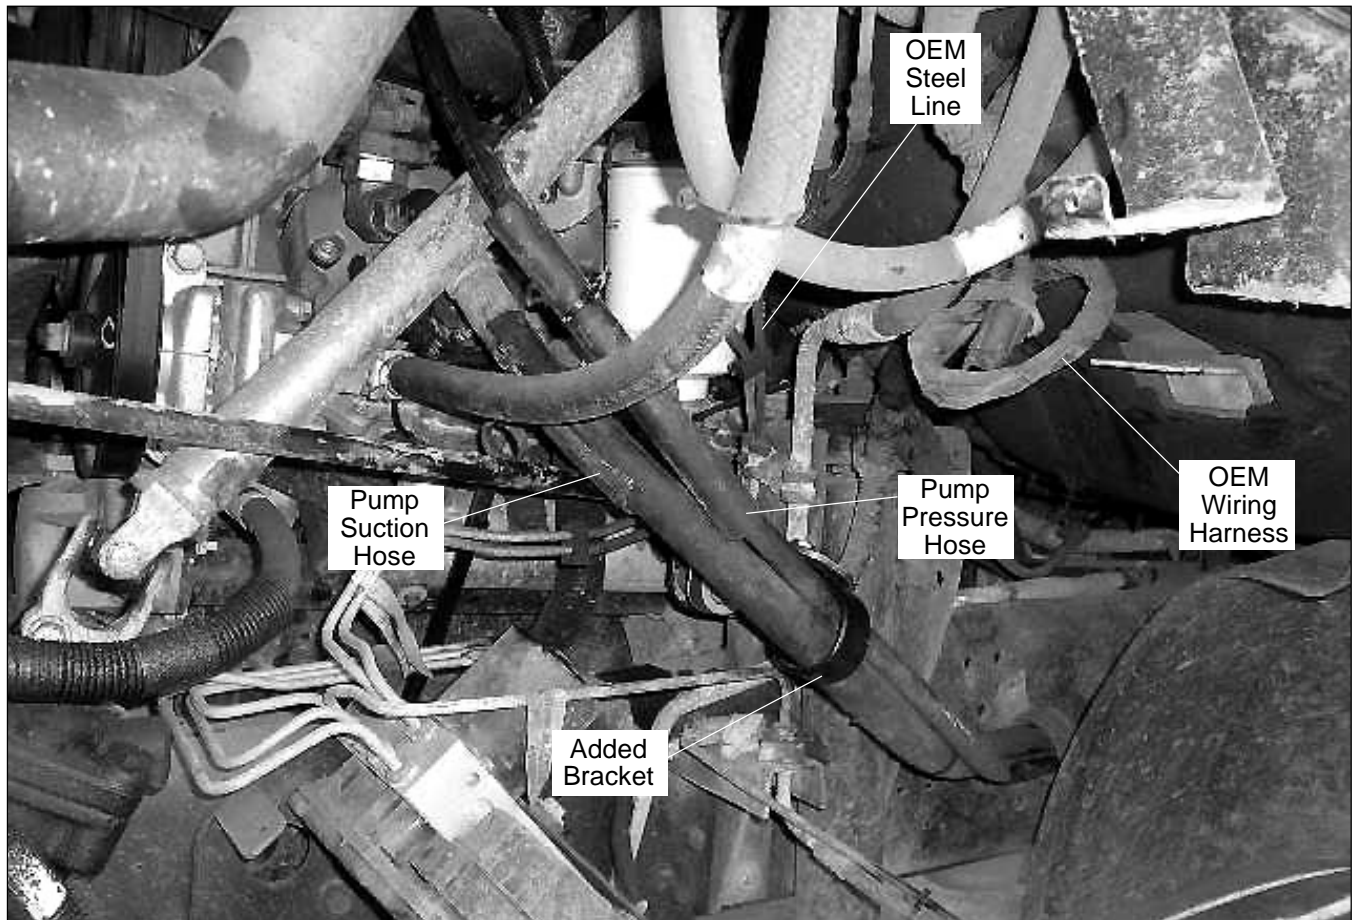

Figure 3 — Bracket Installation
5. Install the hose routing bracket to make sure the pump pressure and suction hoses are routed away from anything that might damage them (Refer to Figure 3).